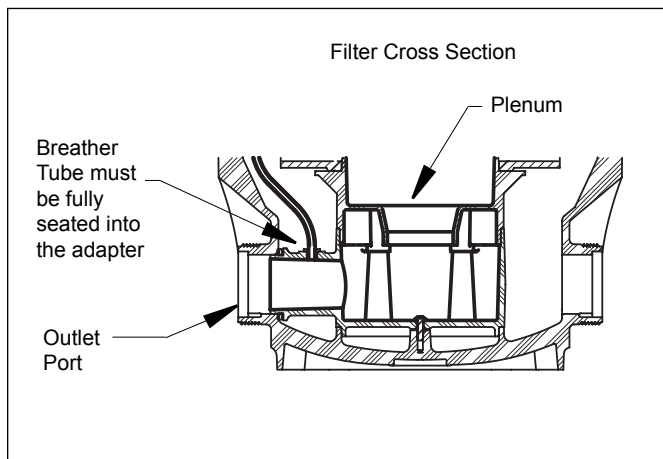

Figure 7. Changing the Outlet Port, Cross Section
2. Remove the three (3) screws holding the Breather Tube Support. Slide the Support off of the tank rib. The bottom of the Breather Tube will stay in the Plenum (see Fig. 7).